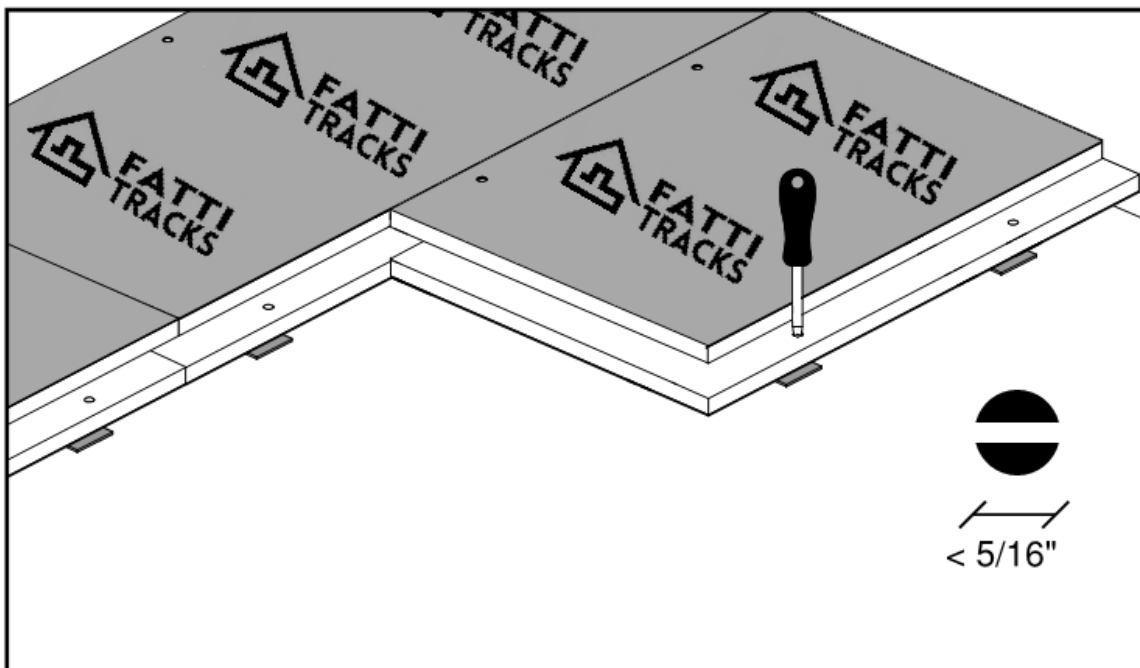

Fig. 3
- To elevate or level the subfloor, measure with a level or stringline and manually adjust the height of the legs from below the panels. Alternatively, go from the top using a slim, flatheaded screwdriver (see fig. 3).